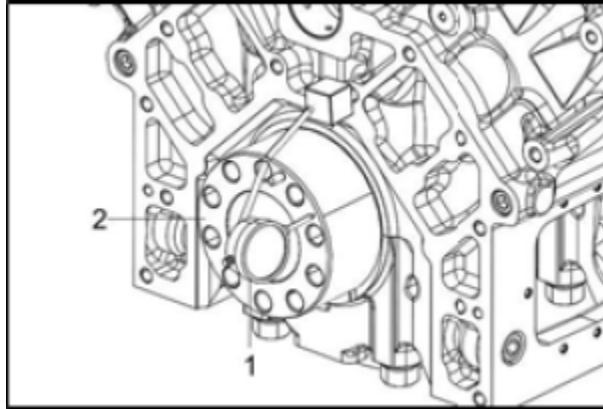
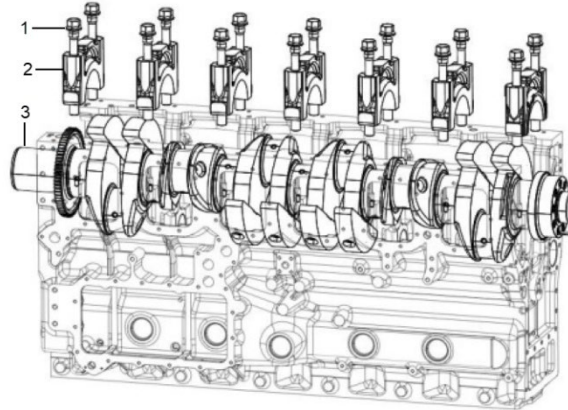

Figure 86.
Figure 88.
**METHOD A:** Install a dial gauge (Figure 88, Item 1) on the cylinder block. Move the crankshaft (Figure 86, Item 2) front to rear to measure the end play. Record the measurement.
1. Loosen and remove the main bearing cap bolts (Figure 88, Item 1).
2. Remove the main bearing caps (Figure 88, Item 2). Be sure to note the markings on the main bearing caps, or mark them yourself, so they can be reinstalled in the same order as they were removed. **DO NOT REMOVE THE BEARING INSERTS AT THIS TIME.**
4. With proper hoisting assistance carefully remove the crankshaft (Figure 88, Item 3) from the engine.